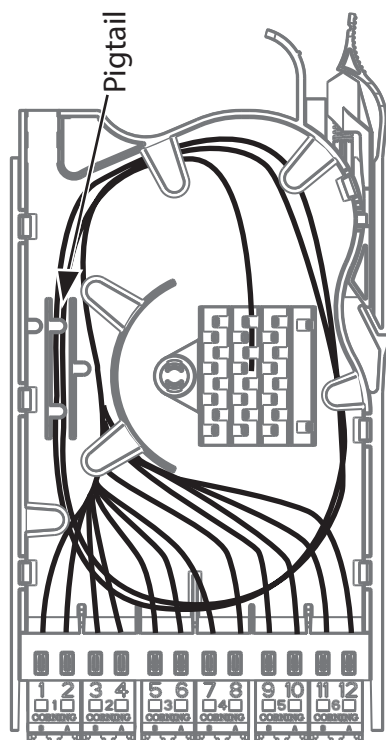

Figure 10
5.3.4 Route all stripped fibres as shown in Figure 10